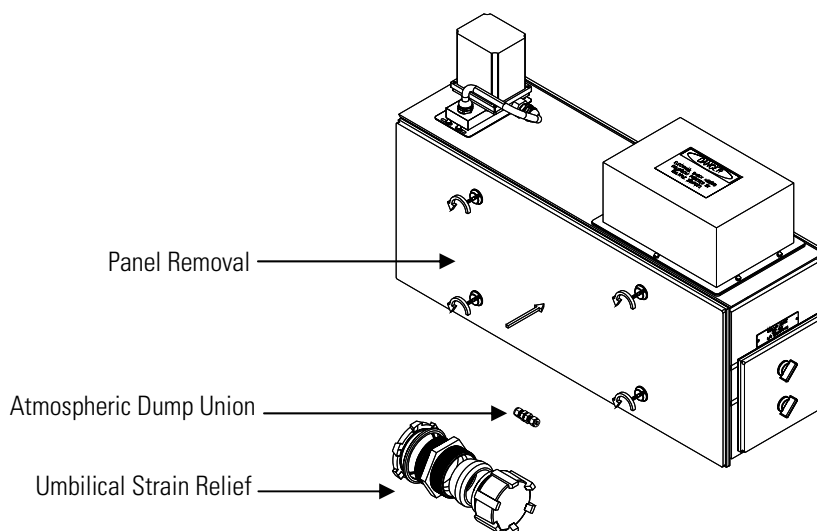

Figure 2–1. Panel Removal and Umbilical Strain Relief:
The Model 83*i* is supplied with a 3-inch Strain Relief Assembly to accommodate the recommended Heated Umbilical Cord (Figure 2–1). Some disassembly will be required to mount the enclosure to the process port. Both preparatory stages are described below.
1. Remove the two (large) side panels from the enclosure, by rotating the compression latches counter clockwise. Both panels are identical. Maintain inward pressure on the center of the panel while unlatching to prevent panel from dropping (Figure 2–1).
1. Using a 5/32-inch Allen head wrench while gripping the 10-32 thumb nuts, remove the two (2) sets towards the left side of the illustration and refasten them in the holes on the outside of the fast loop support table (Figure 2–2). Repeat for set on right side of illustration.